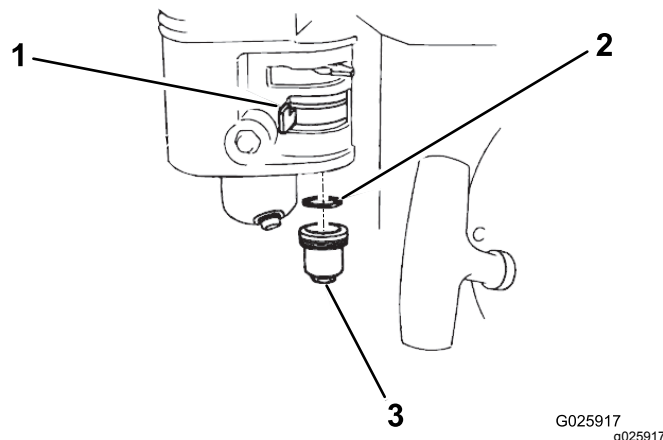

Figure 33
2. Move the fuel-shutoff valve to the OFF position (Figure 33).
3. Remove the fuel sediment cup and O-ring (Figure 33).
6. Place the O-ring in the fuel-shutoff valve and install the sediment cup (Figure 33). Tighten the sediment cup securely.